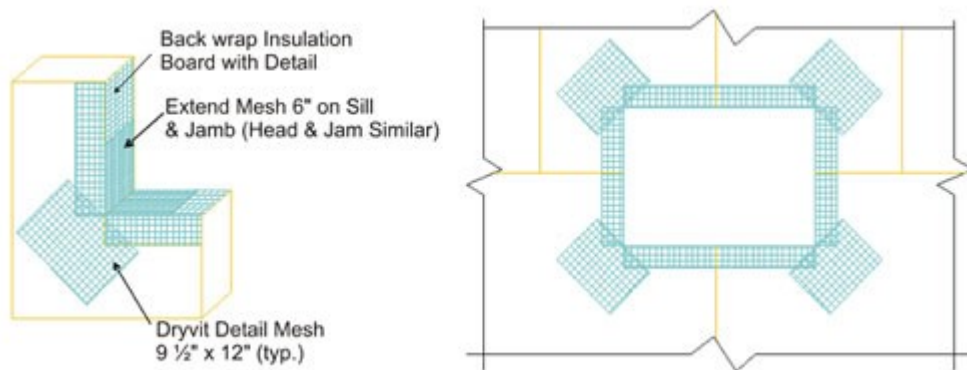

Fig. 10 : Rough Openings
- 18) Corners of all openings such as windows, doors, mechanical equipment and all penetrations shall be reinforced with Detail Mesh placed diagonally to the opening as illustrated in Figure 10